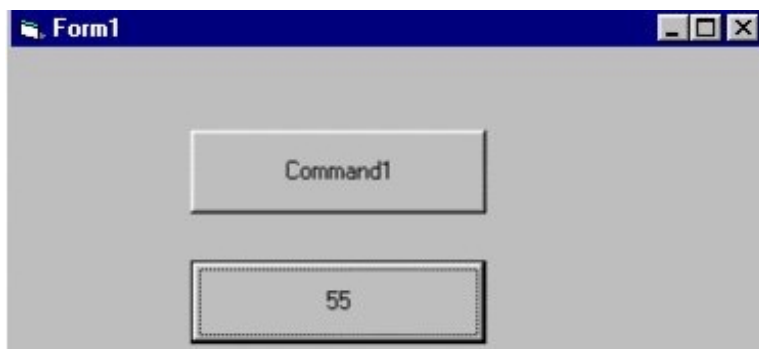

Figure 3-1-10. Use function "AnalogIn" to get the analog input value
- Run the program and click the “Command2” button. The caption of “Command2” button will show the analog input value from the module. Refer to Figure 3-1-10.